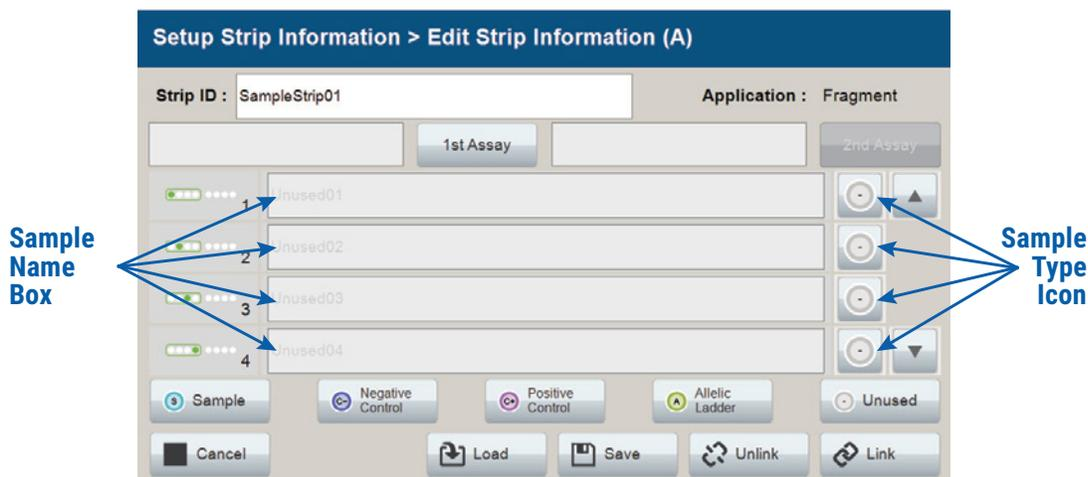
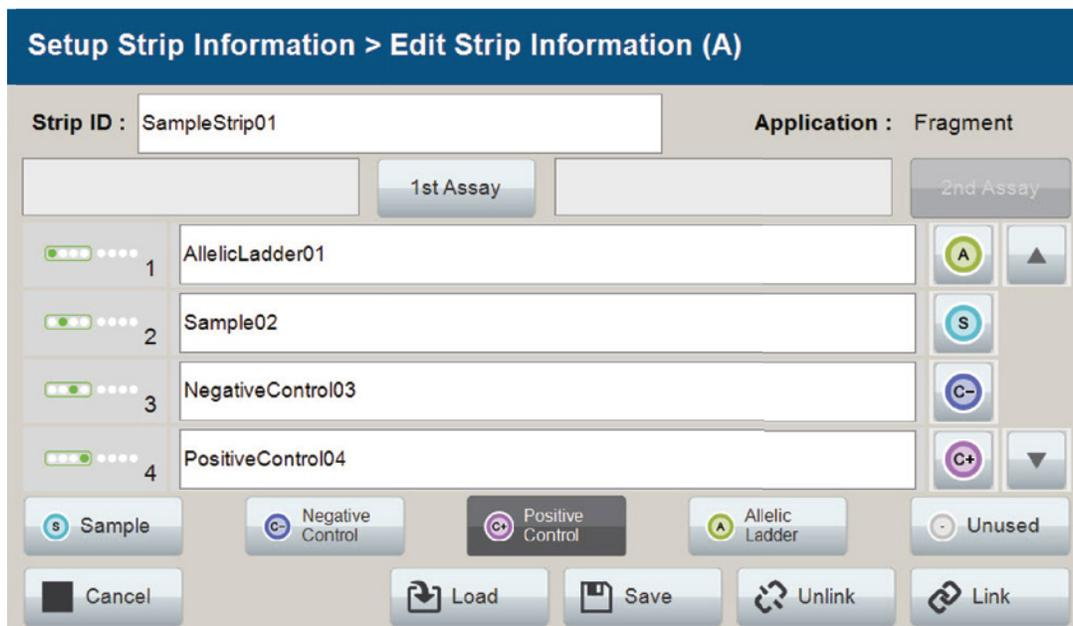
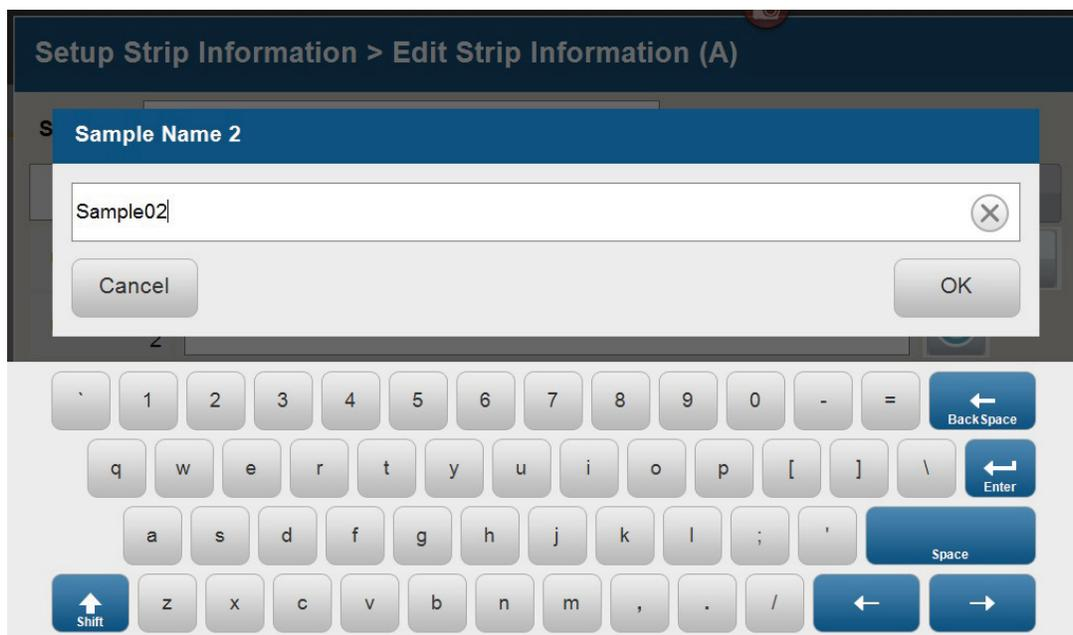
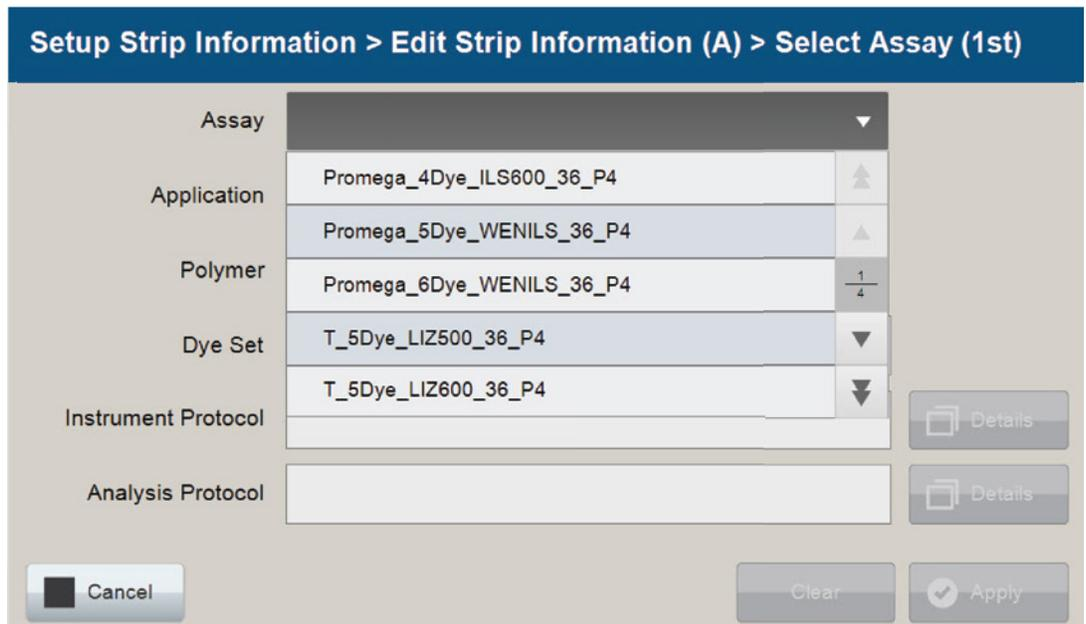

Figure 13. Sample Type and Sample Name on 'Edit Strip Information' screen.
Figure 14. Sample Name Entry on 'Edit Strip Information' screen.
Figure 15. 'Set Sample Name' window.
Figure 16. 'Select Assay' window.
4. Select a sample type on the 'Edit Strip Information' screen (Figure 13). Sample types must be selected for each well position before the Sample Name box becomes active for entry of sample name. Sample types are as follows.
5. To assign a sample type to a well, select the appropriate sample type along the bottom of the 'Edit Strip Information' screen (Figure 13), then select the **Sample Type** icon to the right of the sample name field for the desired well. This icon will then display the sample type selected for that well (Figure 14).
6. Enter a sample name for each well position by selecting the **Sample Name** box adjacent to the well number on the 'Edit Strip Information' screen (Figure 14). This opens the 'Set Sample Name' window and a keypad will become active on the touch screen (Figure 15). Alternatively, the Sample Name can be entered using a traditional keyboard if one is connected to the Spectrum Compact CE System. Enter the appropriate sample name, then select **OK** to exit and return to the 'Edit Strip Information' screen.
- The Spectrum Compact Control Software includes preloaded run assays for use with chemistries available from Promega. Refer to the *Spectrum Compact CE System Operating Manual* #TMD058 for information on creating or modifying assays. To assign a run assay to an injection set, select **1st Assay** on the right side of the '1st Assay' field (Figure 14). This opens the 'Select Assay' window (Figure 16). Select 'Promega_6Dye_WENILS_36_P4' from the drop-down list (Figure 16) and then select **Apply**.